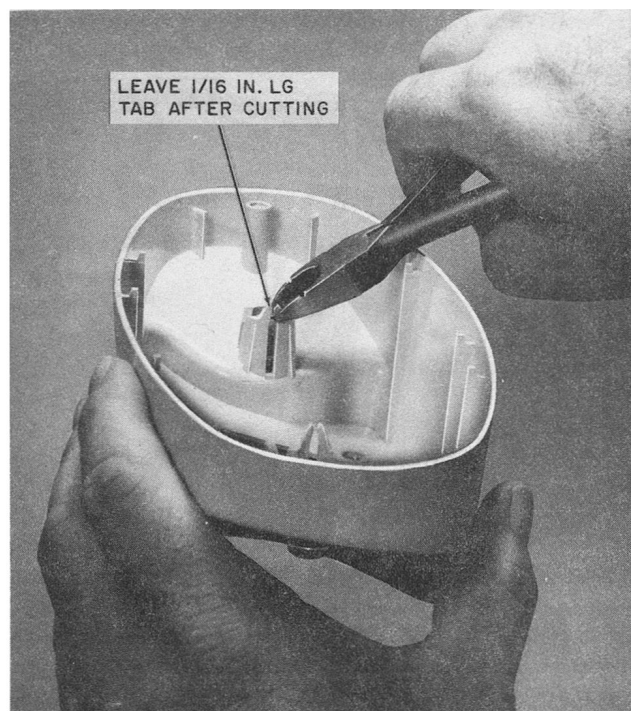

Fig. 10—Modification of Housing
- (1) Using diagonal side cutters, clip off a portion of the **plunger-well snap-tabs**, which interfere with the P-type ringer and/or network, as shown in Fig. 10.